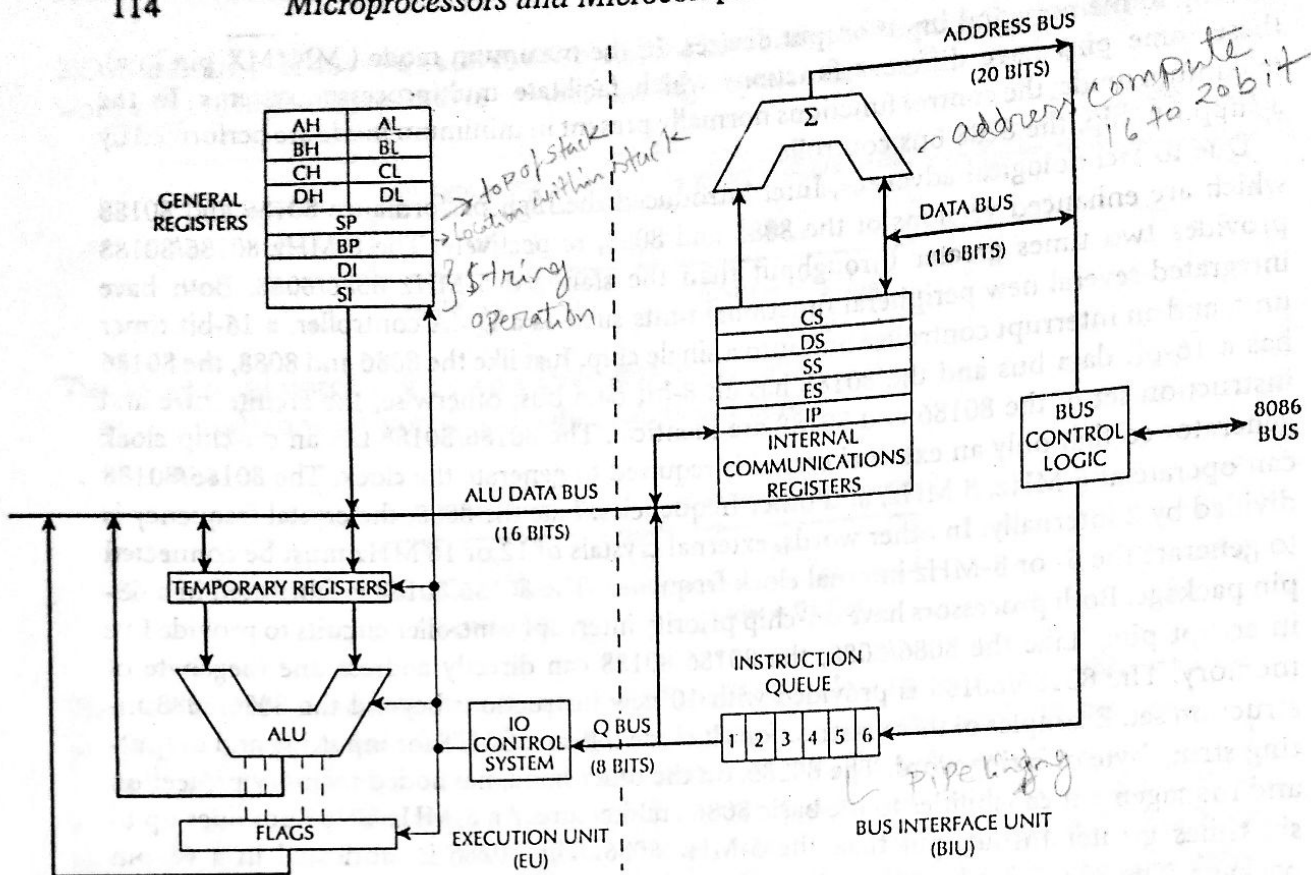

FIGURE 3.1 Internal architecture of the 8086.
Figure 3.1 shows a block diagram of the 8086 internal architecture. As shown in the figure, the 8086 microprocessor is internally divided into two separate functional units. These are the Bus Interface Unit (BIU) and the Execution Unit (EU). The BIU fetches instructions, reads data from memory and ports, and writes data to memory and I/O ports. The EU executes instructions that have already been fetched by the BIU. The BIU and EU function independently. The BIU interfaces the 8086 to the outside world. The BIU contains segment registers, instruction pointer, instruction queue, and address generation/bus control circuitry to provide functions such as fetching and queuing of instructions, and bus control.